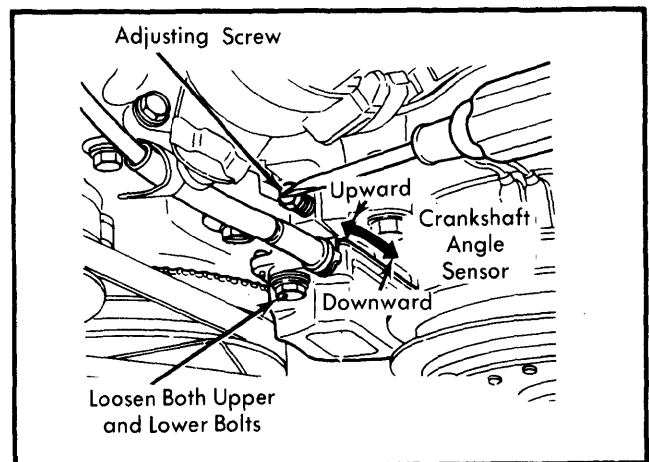

Fig. 8 Adjusting Ignition Timing by Turning Crankshaft Angle Sensor Adjusting Screw
2) To advance ignition timing, tighten adjusting screw. This will move crankshaft angle sensor upward. To retard ignition timing, loosen adjusting screw, this will move crankshaft angle sensor downward. See Fig. 8.